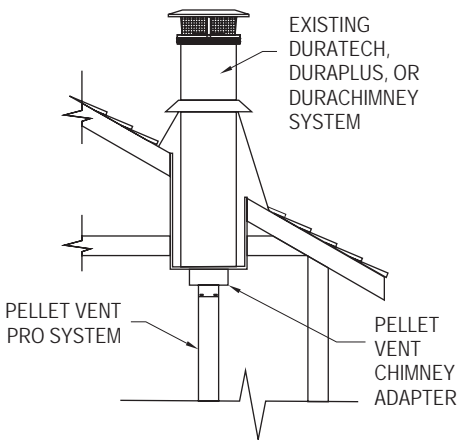

Figure 7
6. If it is desired to attach to an existing 6", 7" or 8" DuraTech, DuraPlus or DuraPlus HTC chimney, either roof supported, or ceiling supported: **(Figure 7).**
**C.** Install a DVL/DuraBlack Chimney Adapter - product stock numbers (6") 8674, (7") 8774, or (8") 8874 - in the existing ceiling support box, as shown in **Figure 7.** Note that the DVL/ DuraBlack Chimney Adapter only connects to Simpson Dura-Vent chimney systems.
E. Connect the appliance to the Chimney Adapter using an Appliance Adapter, lengths of pipe as required, and an Adjustable Length pipe. Slide the Adjustable Length down over the top pipe section, position the installation vertically plumb, then slip the Adjustable Length up and twist lock it to the Chimney Adapter. Once all the components are firmly seated and properly aligned, carefully drill three 1/8" diameter holes through the outer sleeve only in the center of the slots located at the bottom of the Adjustable Length pipe. Do not penetrate the inner liner. Use (3) 1/4" length sheet metal screws to secure the Adjustable Length pipe. The completed installation will look like *Figure 7*.